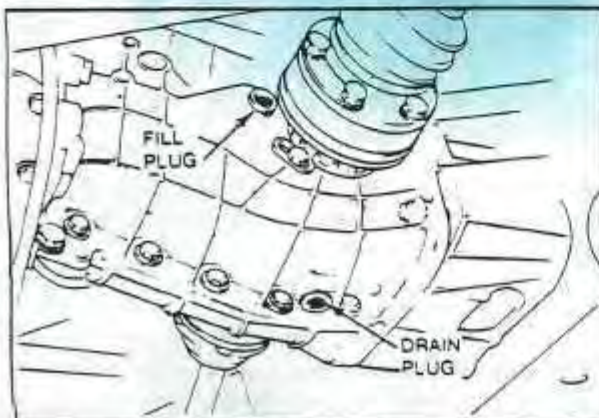

Fig. 8 FINAL DRIVE DRAIN PLUG
2. Remove the final drive fill plug, *Fig. 8*.
2. Remove the drain plug from the final drive case and all the oil thoroughly, *Fig. 8*.
4. Remove the oil fill plug from the side of the final drive case and add gear oil until the oil level is at the bottom edge of the fill plug hole, *Fig. 8*.